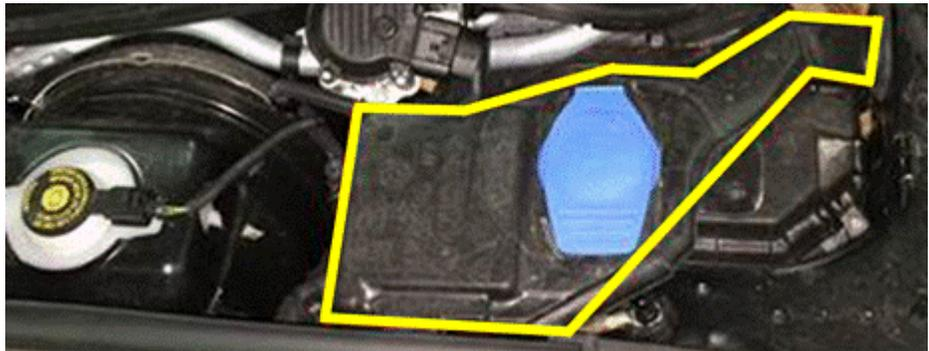

Figure 3. Washer reservoir fuel neck.
4. Remove the washer reservoir fuel neck (Figure 3).